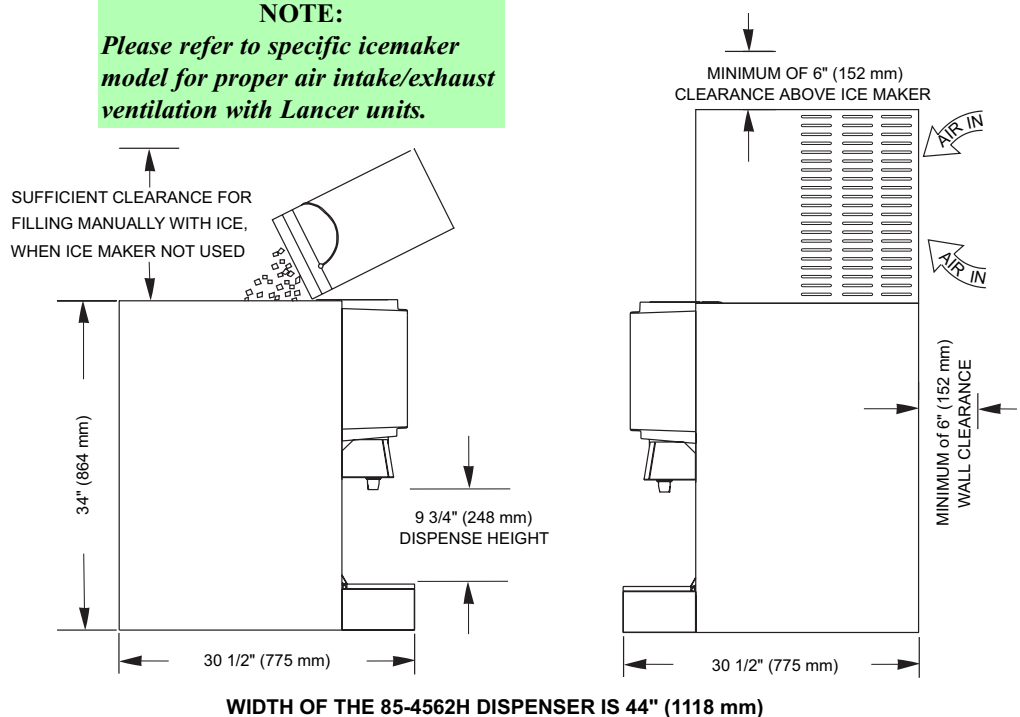

Figure 1
1.3 SELECTING COUNTER LOCATION (SEE FIGURE 1)
- C. Location must insure sufficient clearance on sides, top and back of unit is provided for ventilation and air circulation (see Figure 1).
- D. Additionally, if an ice maker is not top mounted on the unit, sufficient clearance should be provided [a minimum of 16 inches (406 mm) is recommended] to allow filling the unit with ice from a five (5) gallon (19 liter) container (see Figure 1).